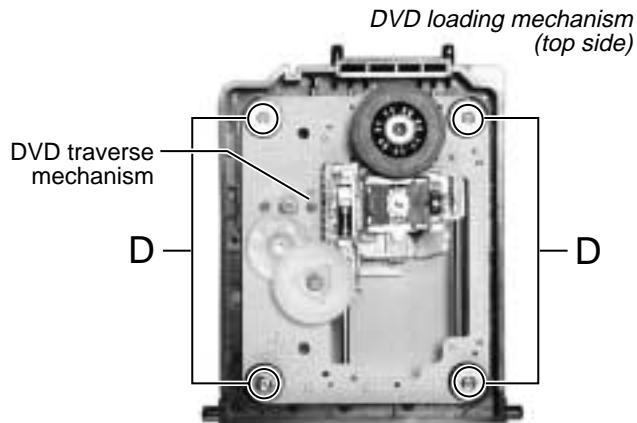

Fig.5
■ Removing the DVD traverse mechanism (See Fig.5)